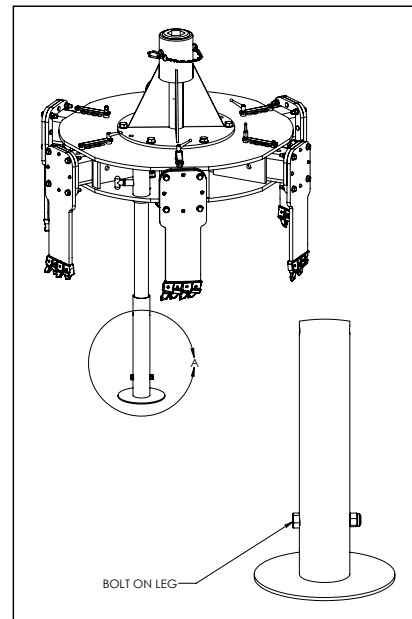

Figure 7. Loosening Bolt On Supporting Leg
4. If using the Standard Guide Shaft Gold Series 35" [K-MM0510], proceed to Step 5. If using the Extended Guide Shaft Gold Series 47" [K-MM0511], the Supporting Legs will need adjusted to the lowest height. Loosen and remove the nut and bolt from the base of the Supporting Leg and extend it fully then replace and tighten the nut and bolt. Repeat for each leg. See Figure 7.